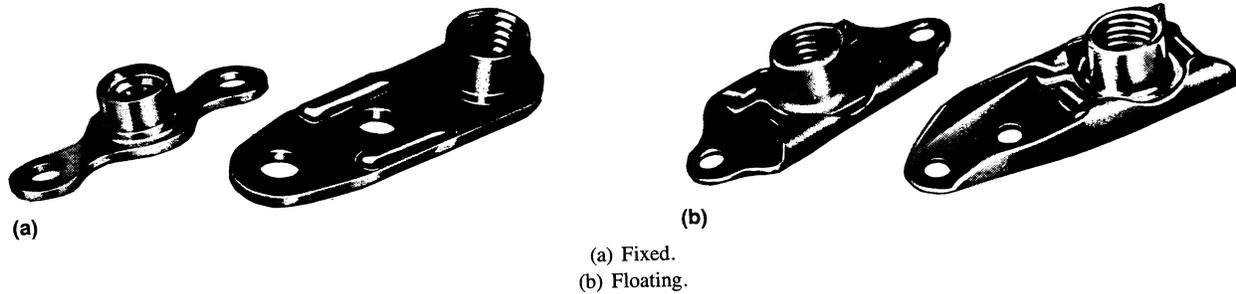

Figure 11.—Nutplate.
**Nutplates.**—A nutplate (fig. 11) is normally used as a blind nut. They can be fixed or floating. In addition, they can have